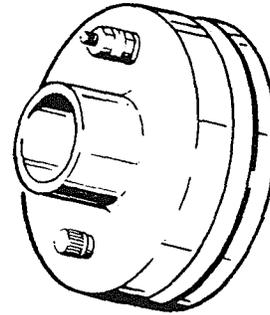

Figure 36. Collared End Cap
8.04 Collared End Cap (Main Cable) Inspection (Figure 36)